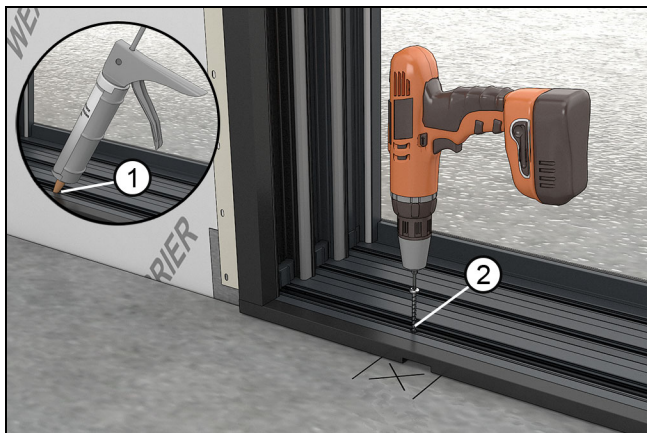

Figure 56 Fastening performance sill
6. Position the frame to the correct depth inject sealant and install an anchor screw in the stationary side sill. See Figure 56.